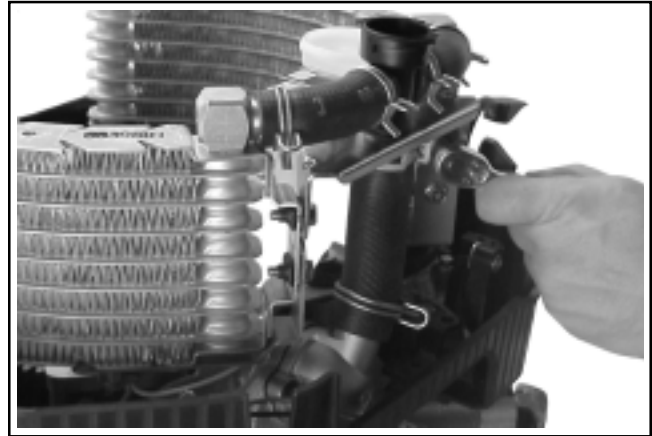

Figure 11-89. Tightening Upper Mounting Screws with Reservoir Installed.
3. Torque the upper two mounting bracket screws to **5.5 N·m (49 in. lb.)**. See Figure 11-89.